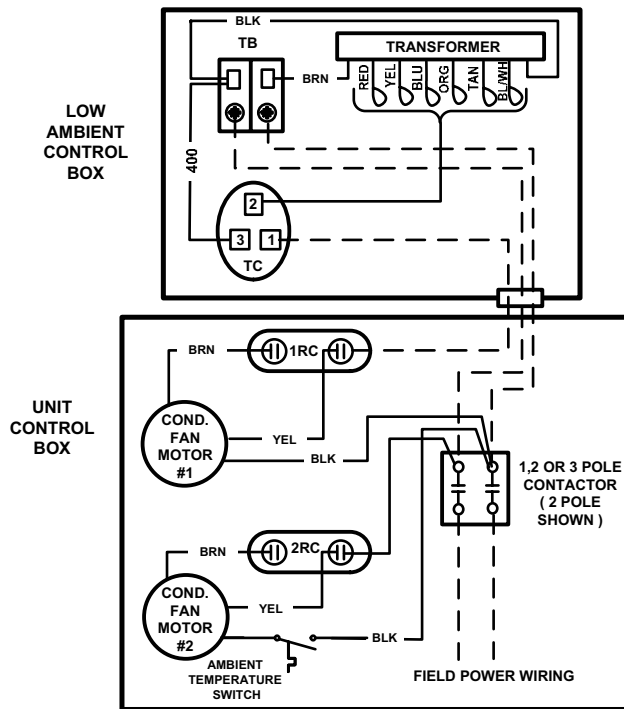

FIGURE 3 - HCE / HHB 120, 150 CONNECTION DIAGRAM
10. On H*CE/H*HB120, 150 units remove the wire connecting (1RC & (2RC). Connect the common side of (2RC) to the load side of the contactor so that this fan motor #2 operates normally as controlled by the ambient temperature switch (ATS). See Figure 3.